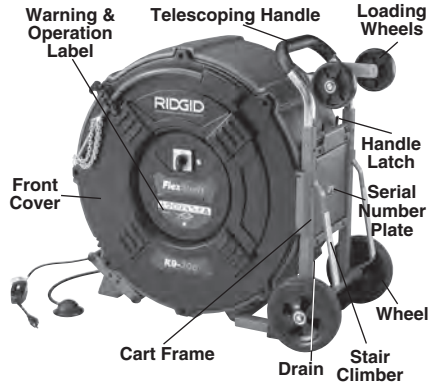

Figure 1A – RIDGID® FlexShaft Drain Cleaning Machine
Serial number plate is located on cart side of housing. (See Figure 1A) The last 4 digits indicate the month (MM) and year (YY) of manufacture.